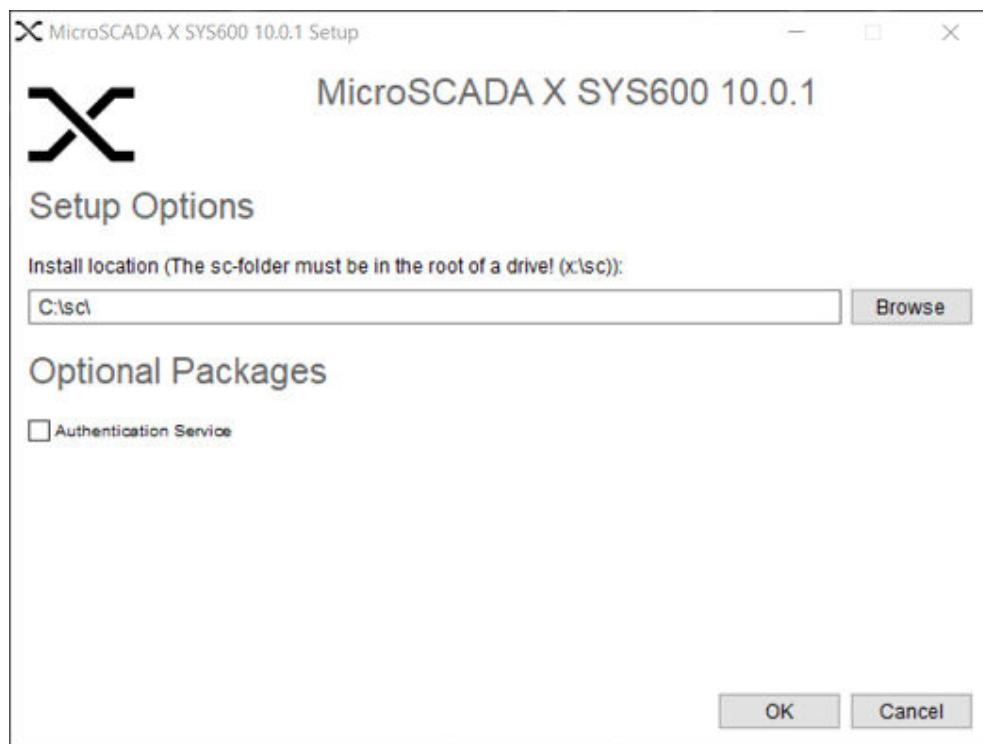

Figure 1: Selecting installation drive and optional packages
6. The available software packages are listed in the **Product Installation** dialog, see Figure 1. Select the optional package as necessary: